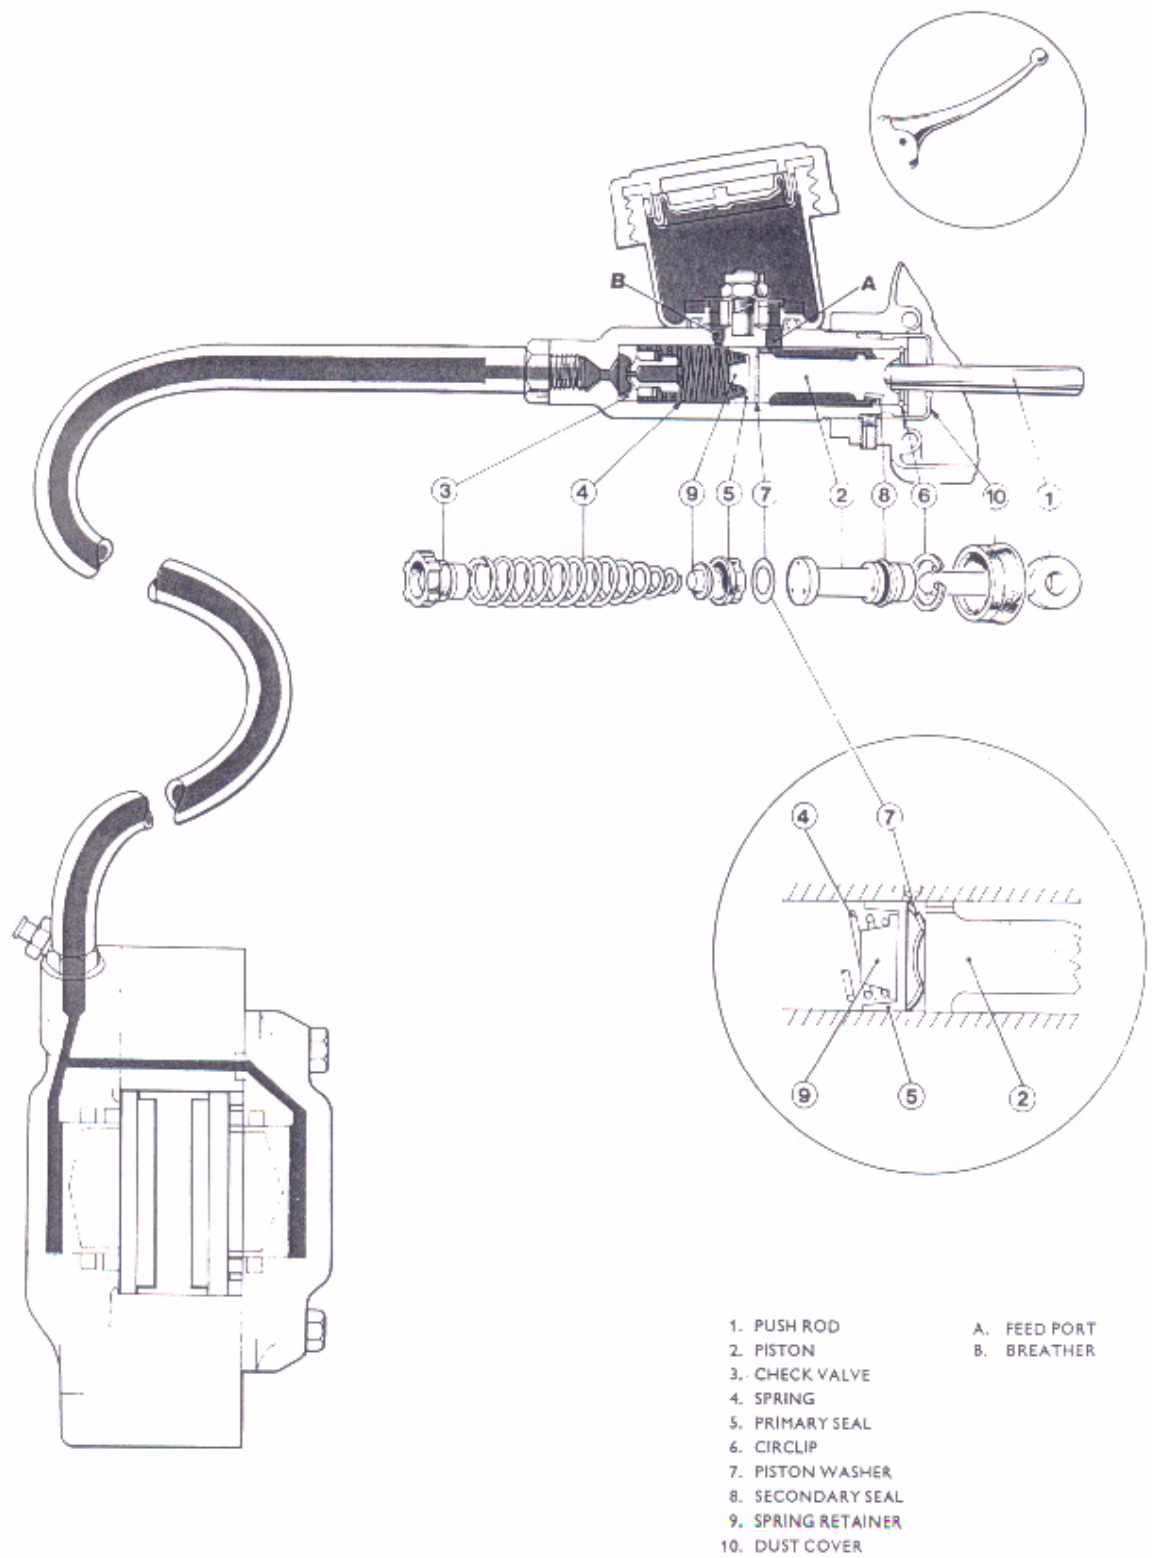

Fig. F5. Hydraulic flow diagram
Fit the return spring. Empty the cylinder of fluid, and proceed to reassemble the cylinder barrel into the switch housing. At this stage the final position of the cylinder barrel in the housing must be determined. It will be noted, from Fig. F5, that the lip of the primary seal (5) must be  $\frac{1}{16}$  in. behind the breather port, and the reservoir set at an angle of  $10^\circ$  to the vertical. The milled flats on the threaded end of the cylinder are machined relative to the  $10^\circ$  position, and the appropriate one must be used when assembly takes place.